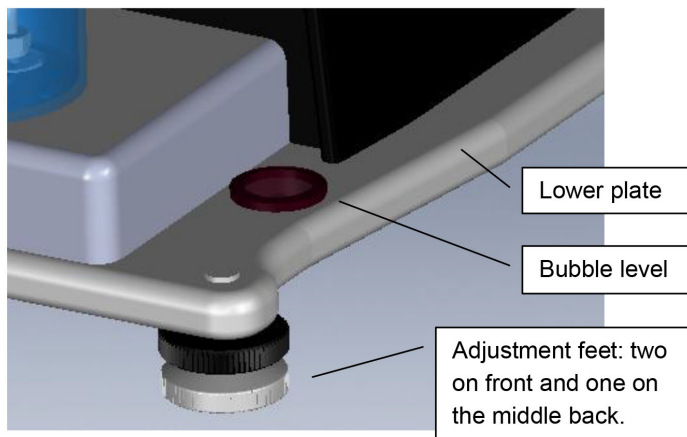

Figure 6: Adjustment and Bubble Level
1. Place AquaLab VSA on a flat and stable surface. Use the bubble level (Figure 6) and the adjustable feet to level the instrument. The small rubber feet on the back of the lower plate prevent tip-over and do not need to be touching the table.